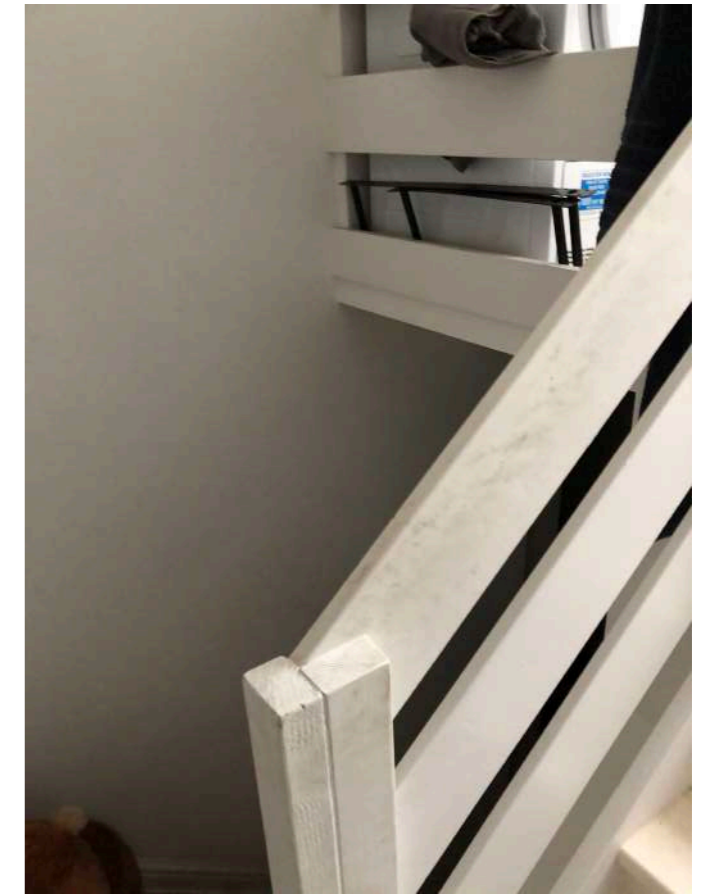

Fig. 6. Existing painted timber balustrade
- Remove existing balustrade and spindles on stairs from principle floor to roof level (Fig. 6).